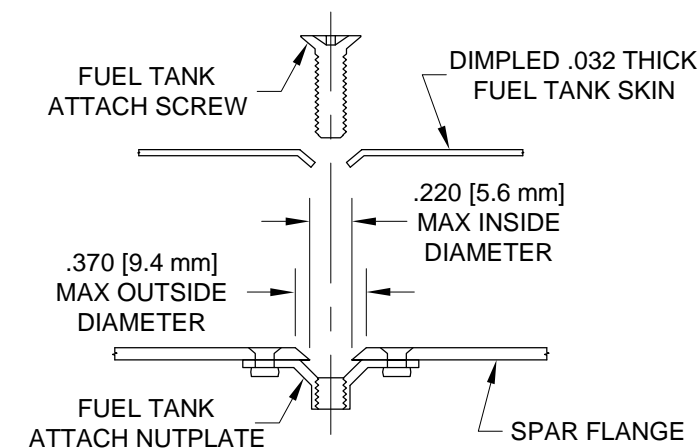

FIGURE 3:
Step 5: Machine countersink the fuel tank attach screw holes. See Figure 3 for details of the countersunk hole. Use a #30 pilot countersink cutter in a microstop countersink cage to countersink the screw holes in the spar. The #30 pilot will center in the nutplate well enough to keep the countersink round and concentric.